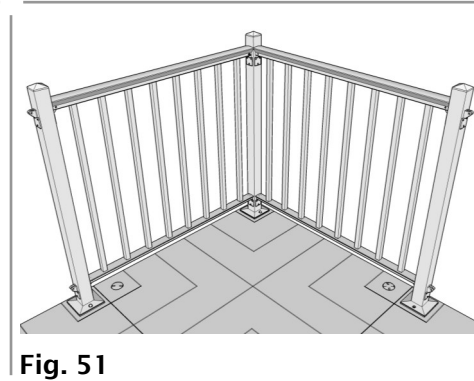

Fig. 51
**24.** Next, install another In-Line Post 40" from the Corner Post perpendicular to the first In-Line Post to create the a corner (Fig. 51).